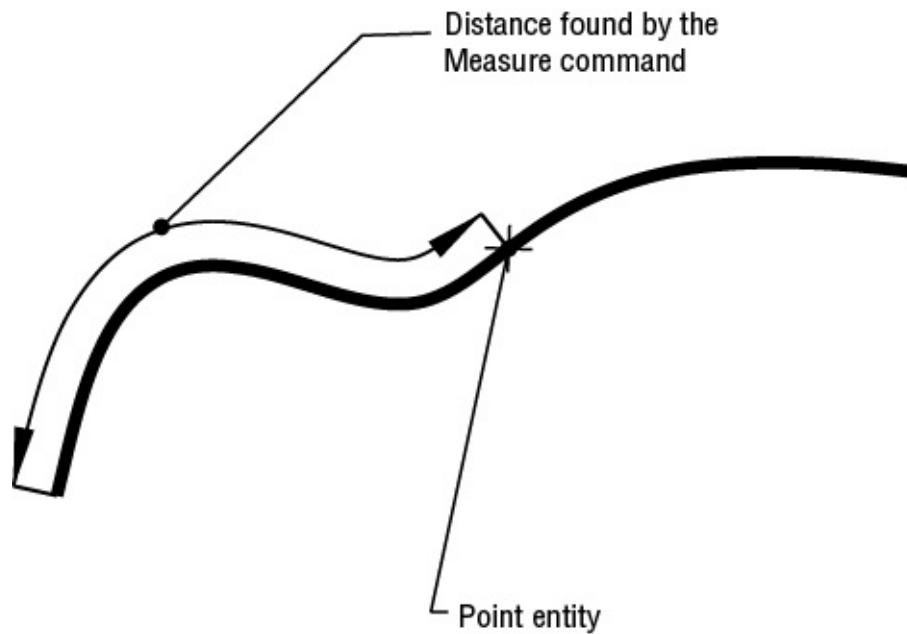

FIGURE 6.36 Finding an exact distance along a spline curve by using points and the Measure command
5. At the `Specify length of segment or [Block]:` prompt, enter the distance you want. A series of Xs appears on the curve, marking off the specified distance along the curve. You can select the exact location of the Xs by using the Node osnap override (see Figure 6.36).